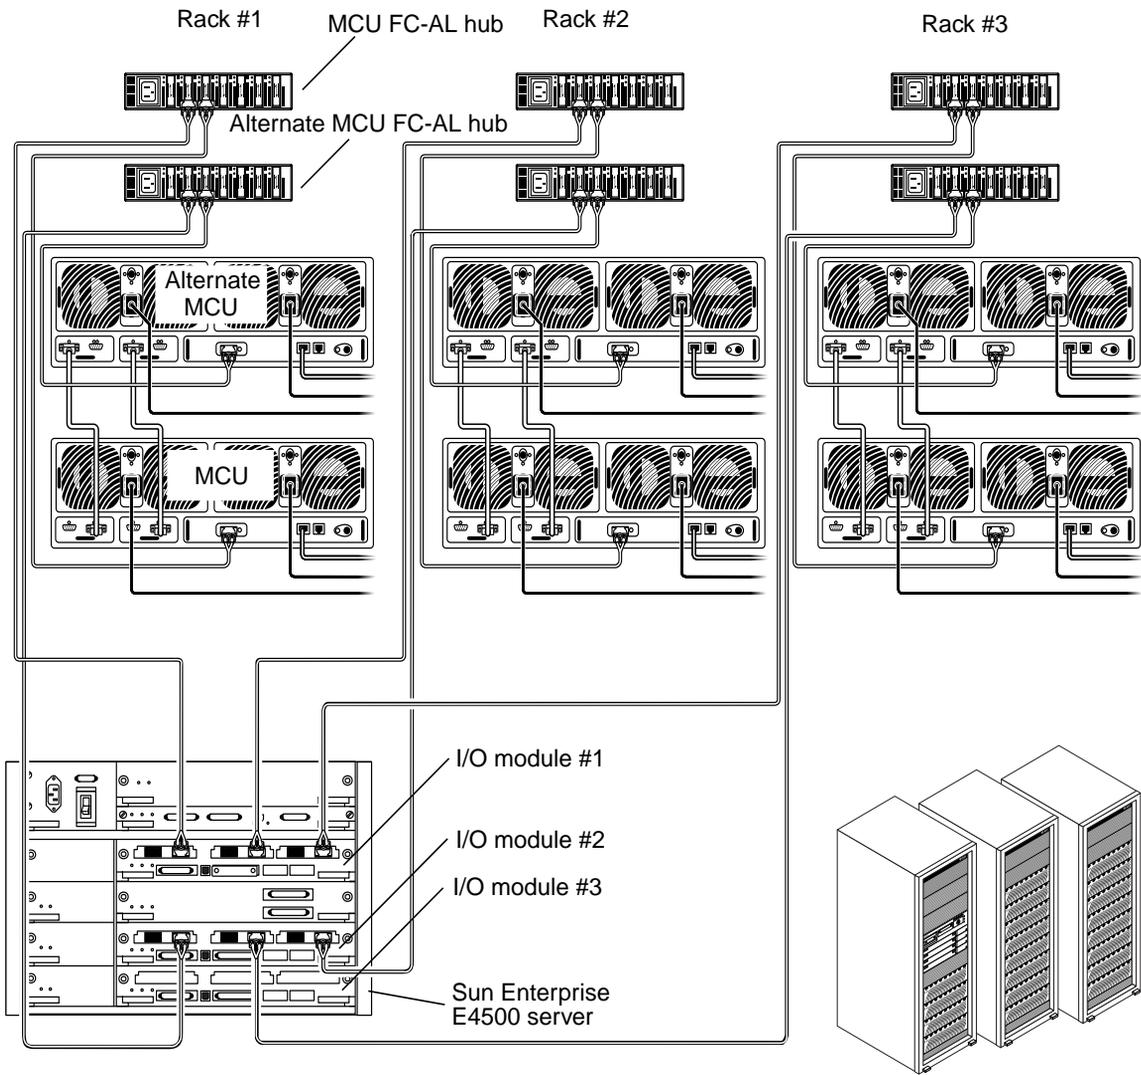
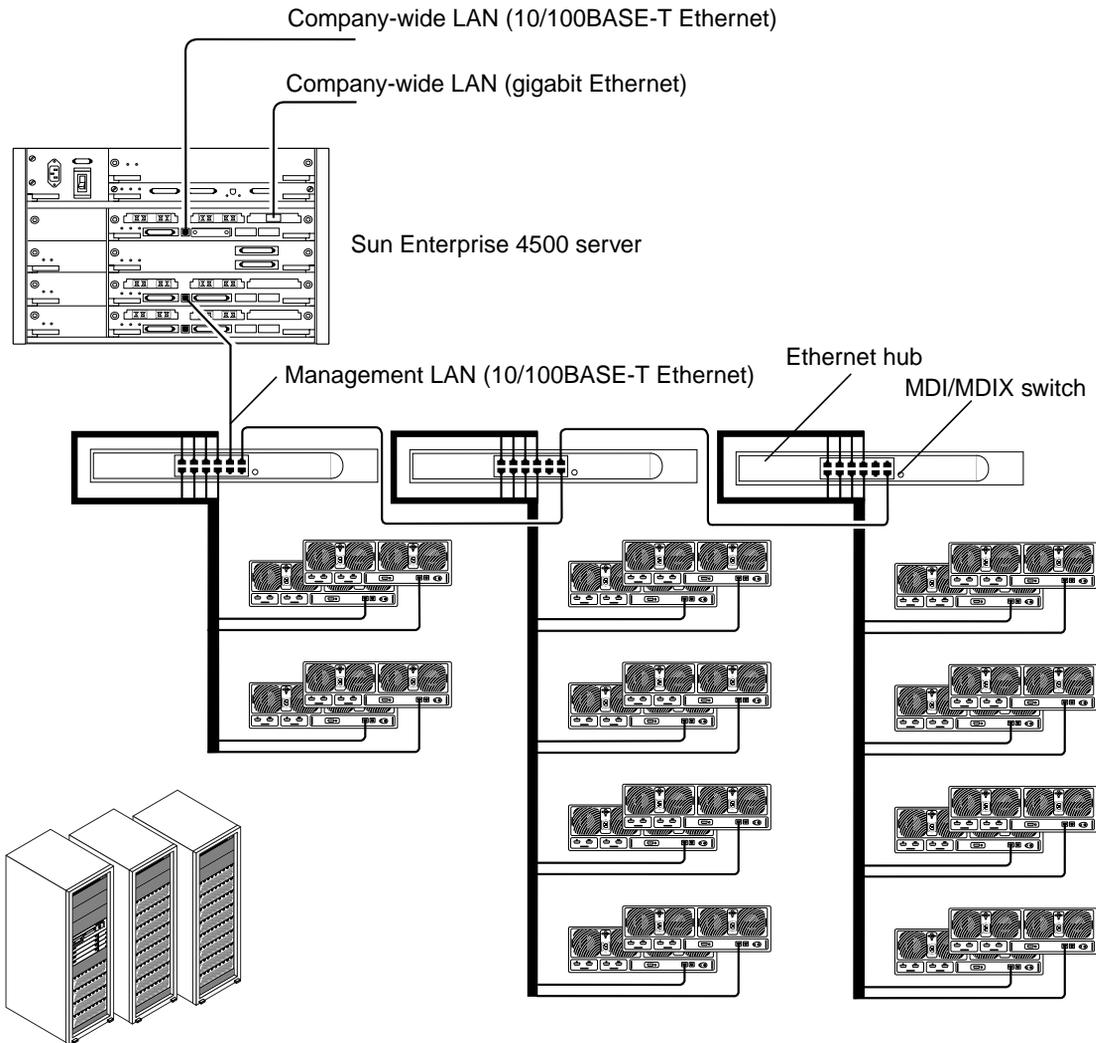

FIGURE 3 Data Network Interconnect for Sun StorEdge N8600 Filer
FIGURE 4 Management Network Interconnect for Sun StorEdge N8600 Filer
The server hardware is also redundant and includes three I/O modules each of which contains two FC-AL host bus adapters, which connect to the partner group's FC-AL hubs. The failure of any host bus adapter or I/O module poses no threat to availability because the FC-AL hubs are connected in such a way that no rack is connected to only one I/O module. See FIGURE 3 for one possible wiring scheme.
The only requirement to maintain redundancy at the I/O modules is to have each of the two lines from the partner group's FC-AL hubs connect to different I/O modules. For instance, in FIGURE 3, the FC-AL hubs of rack #1 are connected to I/O modules #1 and #3; the FC-AL hubs of rack #2 are connected to I/O modules #1 and #2; and the FC-AL hubs of rack #3 are connected to I/O modules #2 and #3. No rack has both of its data lines connected to a single I/O module, providing an alternate data path if any I/O module fails. Again, there is no SPOF.
2. Connect the other end of the fiber-optic cable to the next available port of the MCU FC-AL hub as shown in FIGURE 3.
4. Connect the other end of the fiber-optic cable to the next available port of the alternate MCU FC-AL hub as shown in FIGURE 3.
2. **Connect the other end of the Ethernet cable to the next available port of the 10/100BASE-T Ethernet hub as shown in FIGURE 4.**
4. **Connect the other end of the Ethernet cable to the next available port of the 10/100BASE-T Ethernet hub as shown in FIGURE 4.**
2. **Connect the other end of the Ethernet cable to any available port on the hub of the next expansion rack in line toward the rack that contains the server. See FIGURE 4.**
- Verify all cable connections as shown in FIGURE 3 and FIGURE 4.
The partner groups are connected to a local area network (LAN) as shown in FIGURE 4. To set up the connectivity for a partner group, perform the following steps: